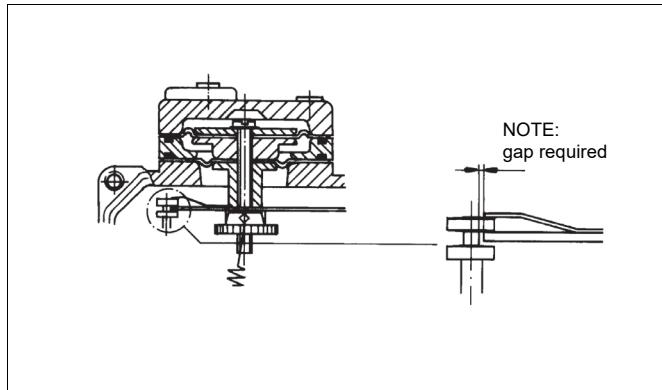

Fig. 15 Replacement of diaphragms
Table 4 shows the shift on the circumference of the cam equal to the "dead angle" of the valve, Figure 15, in various cam segments (C, E, D). Please note the procedures in Chapter 4 before the adjustment.
1. Mark the shift in question on the edge of the cam, Fig. 15 and Table 4. Dimensions do not have to be measured if the dead angle can be reliably noticed from position of the closing member.
2. Lock the cam so that the roller touches the edge of the cam plate at the mark. Tighten the locking wheel (30) and the screw (31).
3. Switch on the supply pressure (S) and the input signal (+/-). Note the correct polarity.